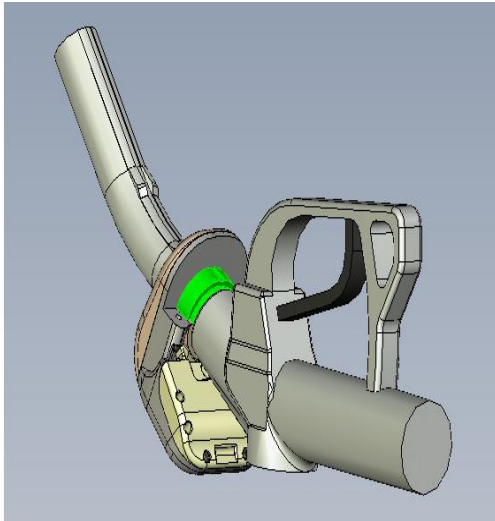

Figure 13: SecurNozzle with second rubber insert
Step 3: Attach the second rubber insert as indicated in Figure 13.